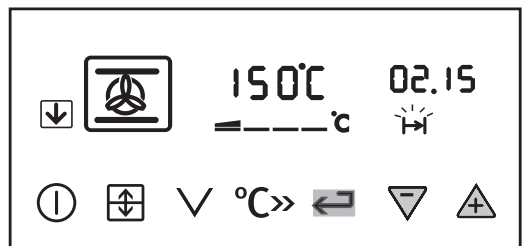

Fig.7.
- iv) To set the length of cooking time. Press the Time Selector button (↵) until the 'Cook Time' indicator neon (⏏) is illuminated. Press the increase control (▲) until the required length of cooking time is displayed, e.g. 2 hrs 15 mins as Fig. 7. If necessary depress the decrease control (▽) until the correct time interval is achieved. The maximum cooking time is 9 hours 59 minutes.